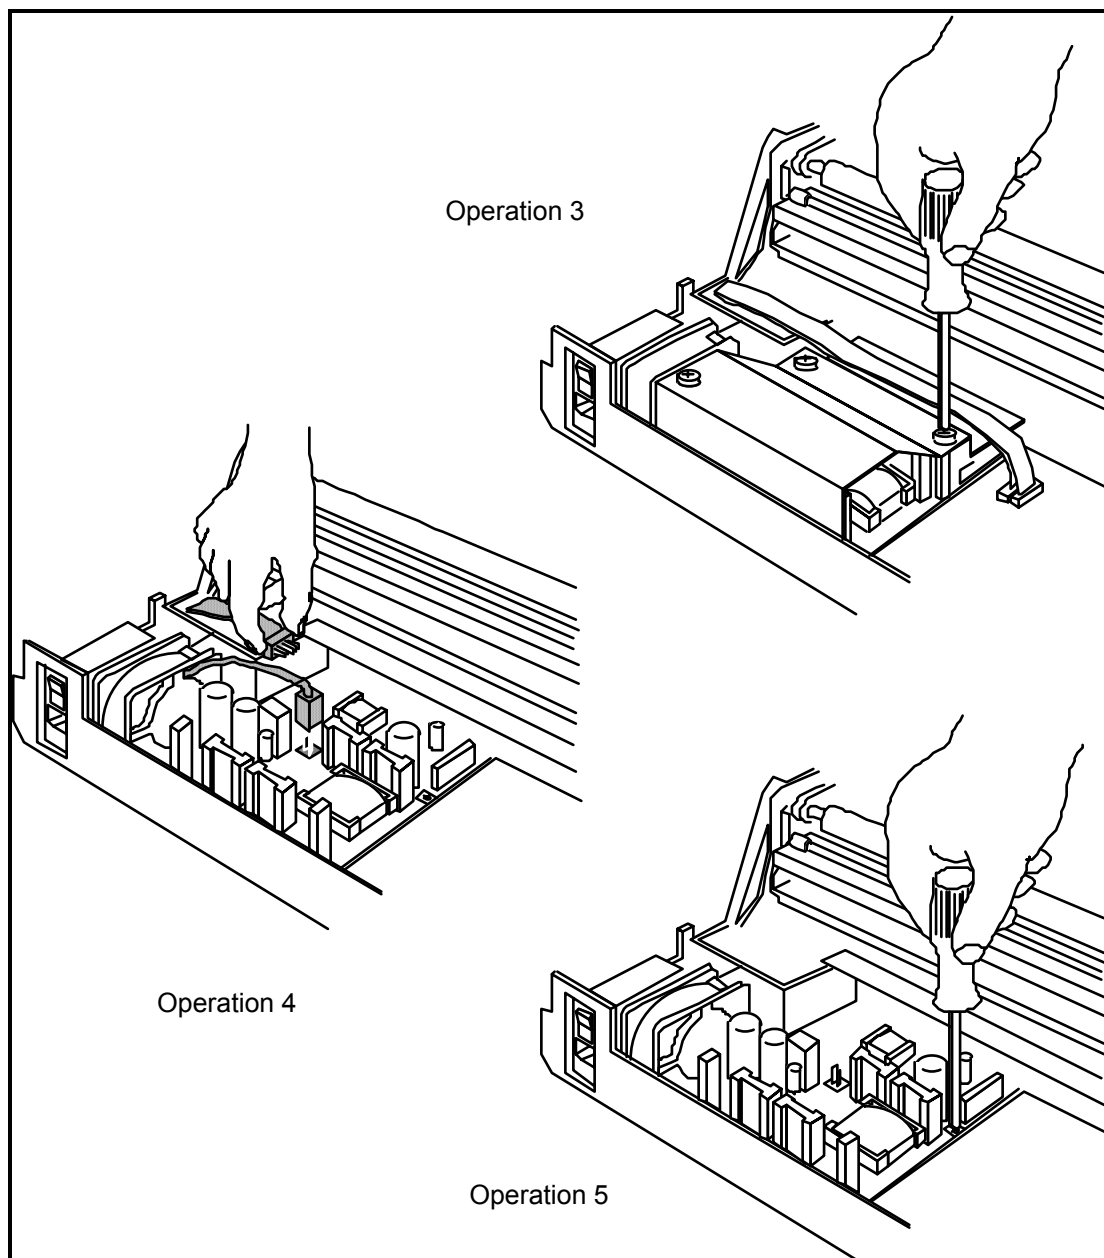

Figure 18-9 — Power Supply PWA Replacement
3. Slip all the cables off their clamps and remove the metal protection by unscrewing the three cross-head screws placed on the upper side as shown in Figure 18-9.